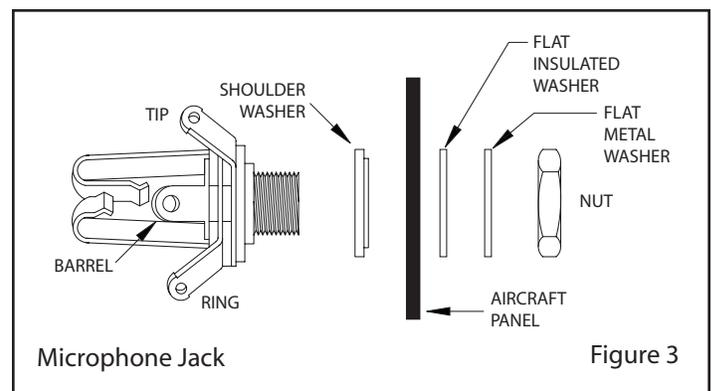

Figure 3
### MOUNTING HEADPHONE AND MICROPHONE JACKS (See Figure 3)
3. Drill 1/2" diameter holes for the mic jacks and install with the insulating washers supplied. (See Figure 3)